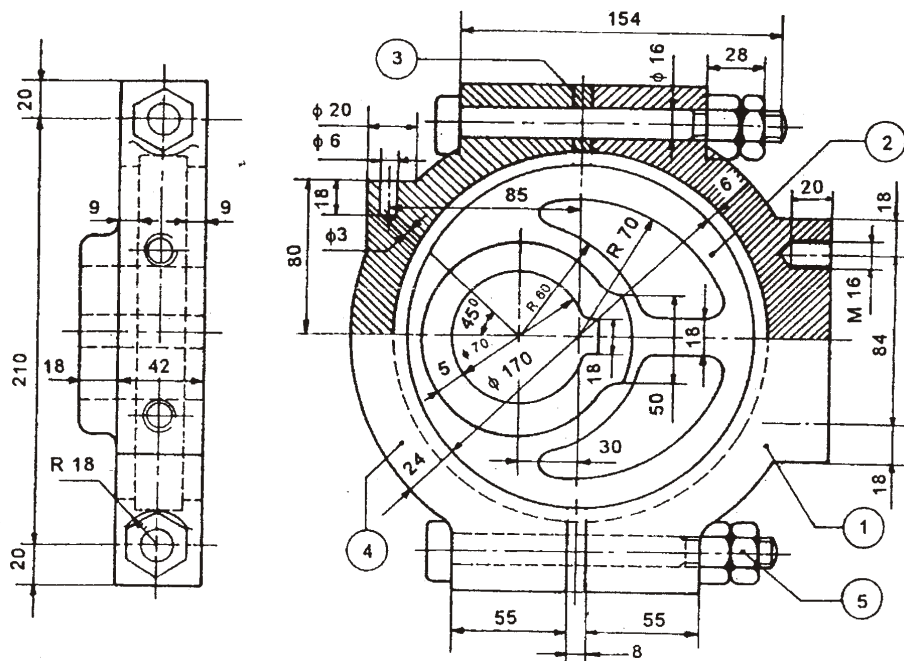

Fig. 1
**Instructions :** (1) Answer *any one* question.
(2) Each question carries **forty** marks.
5. Study the given assembly drawing of the eccentric shown in Fig. 1 :